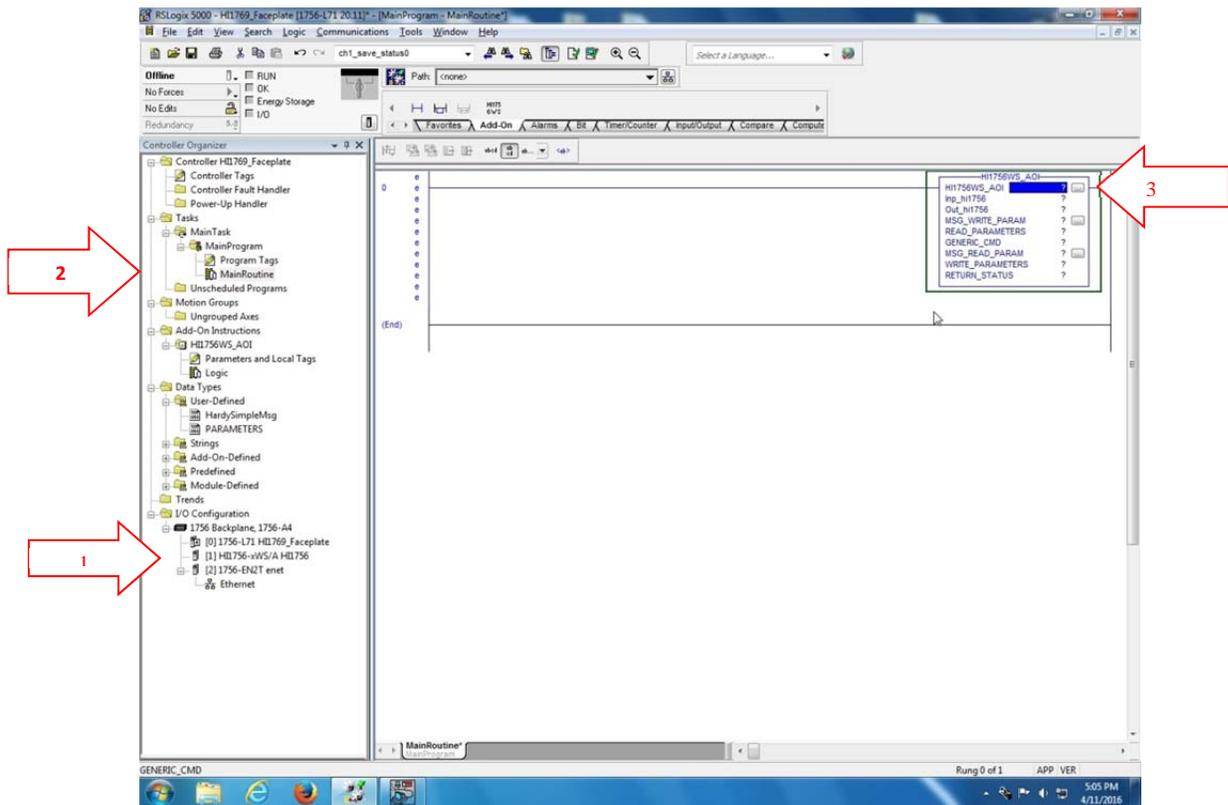

Figure 2
- Add the HI 1756-WS/2WS Plug-In Weight Module (PIM) to the I/O configuration structure. See Figure 2, note 1. Each module added should have a unique name.
- Add the AOI onto the main routine. See Figure 2, note 2.
- Give the HI1756\_Faceplate\_AOI a name and create the tag. This will be an “HI1756WS\_AOI” data type. Any name created with alpha-numeric characters is valid. See Figure 2, note 3.
- Inp\_HI1756: Associate this label with the Input table for the HI 1756-WS/2WS PIM. Click and drop down the list to find the input tables for each device. Choose the one for the HI 1756-WS/2WS PIM by its name in the controller tags. See Figure 2, note 3.
- Out\_HI1756: Associate this label with the Output table for the HI 1756-WS/2WS module. Click and drop down the list to find the output tables for each device. Choose the one for the HI 1756-WS/2WS PIM by its name in the controller tags. See Figure 2, note 3.